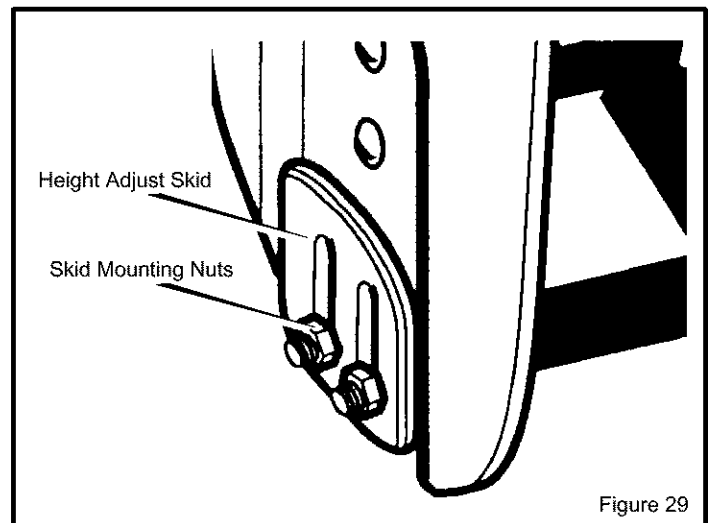

Figure 29
2. Loosen skid mounting nuts (Figure 29) and push the skid down until it touches the ground. Retighten mounting nuts.